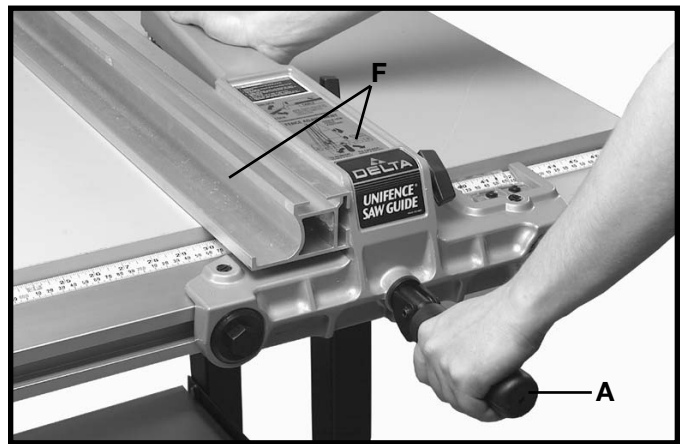

Fig. 96
6. To remove the fence and fence body assembly (F) Fig. 96, from the guide rail, lift up on fence clamping lever (A) and turn lever (A) to the left indent position. The fence assembly (F) can then be pulled straight off the guide rail and removed, as shown in Fig. 96.